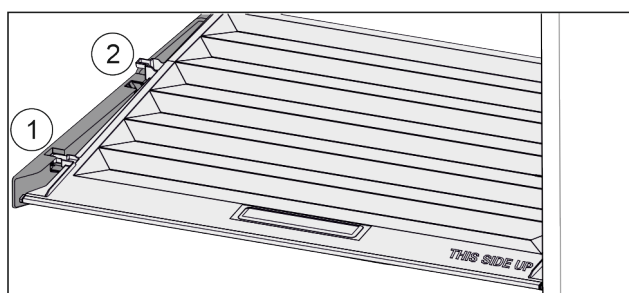

Fig. 45
- Pull the lid up at the front to the opening in the retaining parts Fig. 45 (1).
- Lift from the back and pull it up and out Fig. 45 (2).